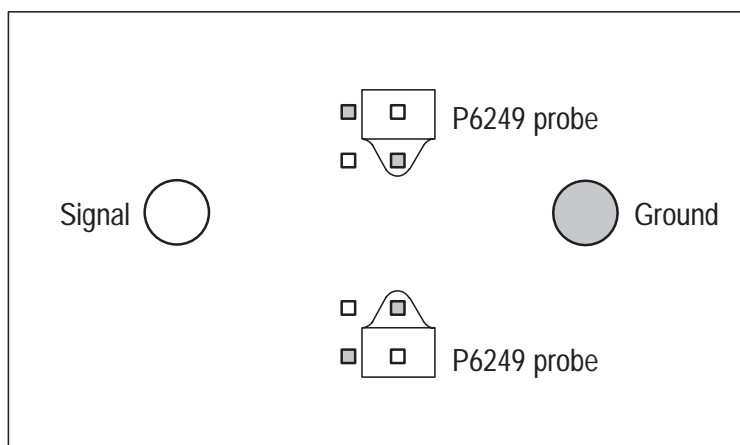

Figure 3: Deskew fixture connections (two P6249 probes shown)
3. If you have the optional deskew fixture, connect it to the PROBE COMPENSATION connections. Connect the probe to the deskew fixture (see Figure 3 on page 15), and proceed to step 6.
The optional deskew fixture provides a convenient way to connect the probes in your system to the calibration signal for deskewing. The deskew fixture is configured to allow you to connect different probe models to the system. Refer to Figure 3 to see how two P6249 probes are connected.